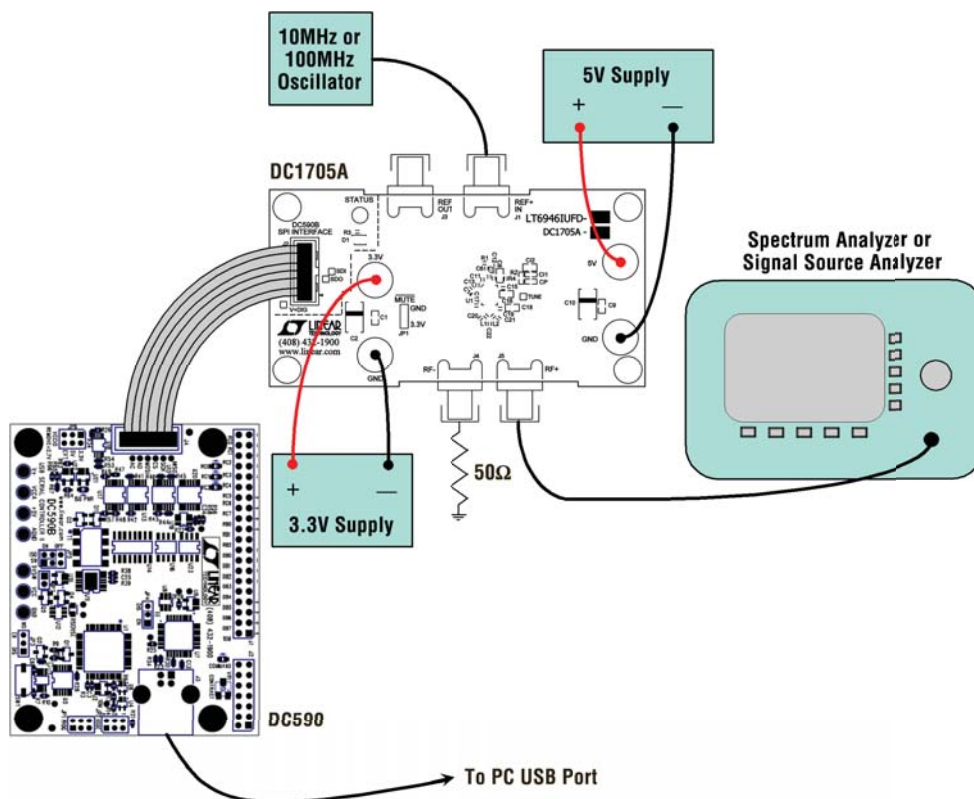

Figure 1. Proper Measurement Equipment Setup
1. Connect an appropriate reference frequency source (at J1) and signal analyzers (at J4 and/or J5) using the SMA connectors (see Figure 1 and the Typical DC1705A Requirements and Characteristics table).
3. Connect the GND, 3.3V and 5V banana jacks to a power supply and apply power (see Figure 1 and the Typical DC1705A Requirements and Characteristics table).